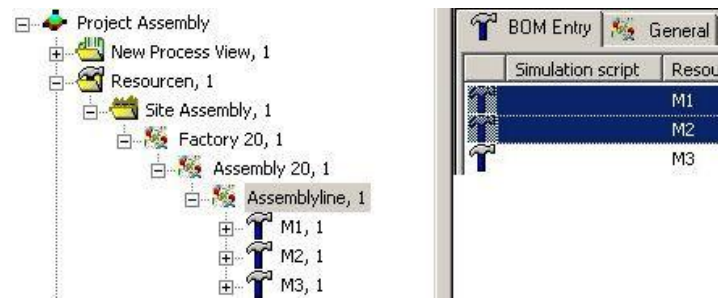

Figure 30: Select Resources in the Listview
- 1) To be able to print graphics of selected resources, first select the parent node - Assemblyline in the example. *Please refer to the Figure 30.*
- 2) Select the resources in the listview for which you wish to display graphics – Resources M1 and M2 in the example. *Please refer to the Figure 30.*